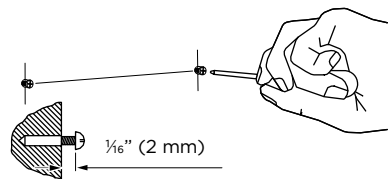
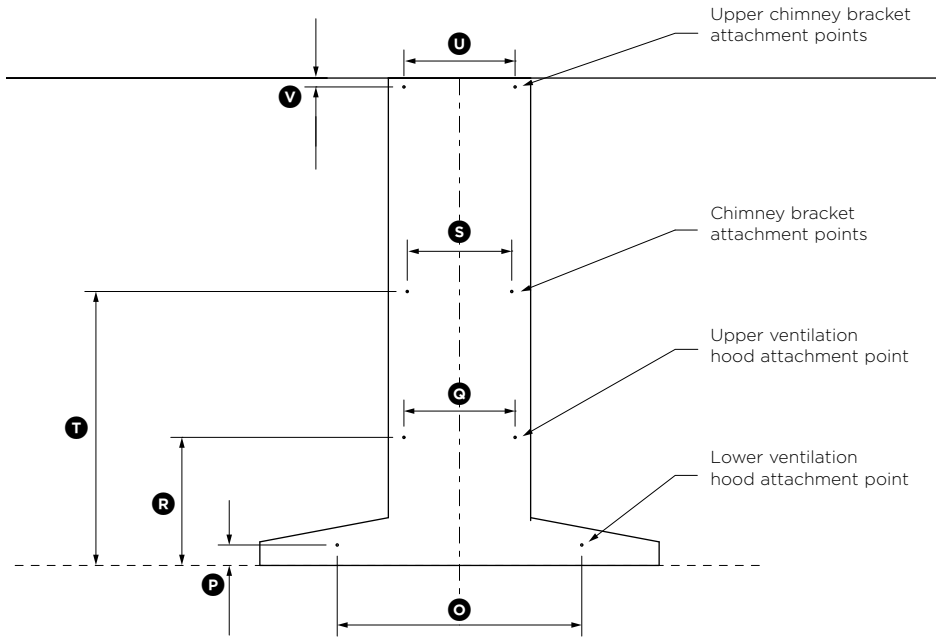

Fig.1
Fig.2
- Ensure the voltage (V) and the frequency (Hz) indicated on the serial plate match the voltage and frequency of the installation site.
② Attach chimney brackets and ventilation hood mounting screws to the wall
- Attach the chimney bracket and upper chimney bracket (if using the upper chimney) in the locations shown in Fig.2 (refer to page 13) and Fig.3 (refer to page 14). Use the 1 $\frac{3}{16}$ " (30 mm) screws (and expansion plugs if attaching to masonry).
- Attach the upper ventilation hood mounting screws in the locations shown in Fig.2 (refer to page 13) and Fig.3 (refer to page 14). Using the 1 $\frac{3}{16}$ " (30 mm) screws (and expansion plugs if attaching to masonry). Ensure that there is a $\frac{1}{16}$ " (2 mm) gap between the screw head and the wall (Fig.1).